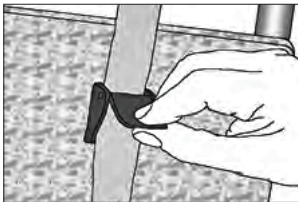

Figure 4
4. Attach Lower Cam Buckles to backrest with appropriate screws or bolts (not included), see Fig. 4.